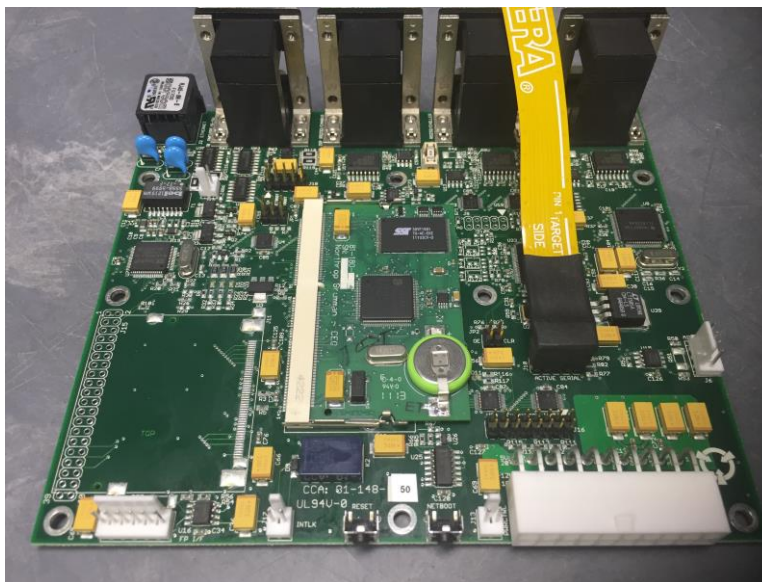

Figure 2. System Controller J10 Connector with Pin 1 Marker and USB Blaster Flex Circuit Cable
- a. Connect the USB Blaster to System Controller **J10** connector. Pin 1 on the Flex Circuit Cable of the USB Blaster should be aligned to Pin 1 marked on the circuit board shown in **Figure 2**.